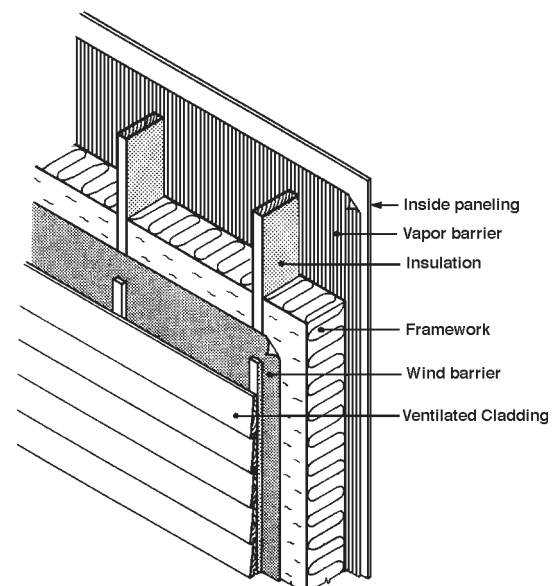

Figure 03
- 03 Older walls are, as a rule, not constructed in the same manner as are modern walls (Figure 03). Additional insulation must, therefore, be fitted to the existing wall framing and coordinated with other improvements to obtain the desired end product. To avoid damage to walls or poor results from retrofitting insulation, it is important to realize that the additional insulation and subsequent sealing of air leaks will alter the temperature conditions within the wall. Parts of the wall that were warm before may now